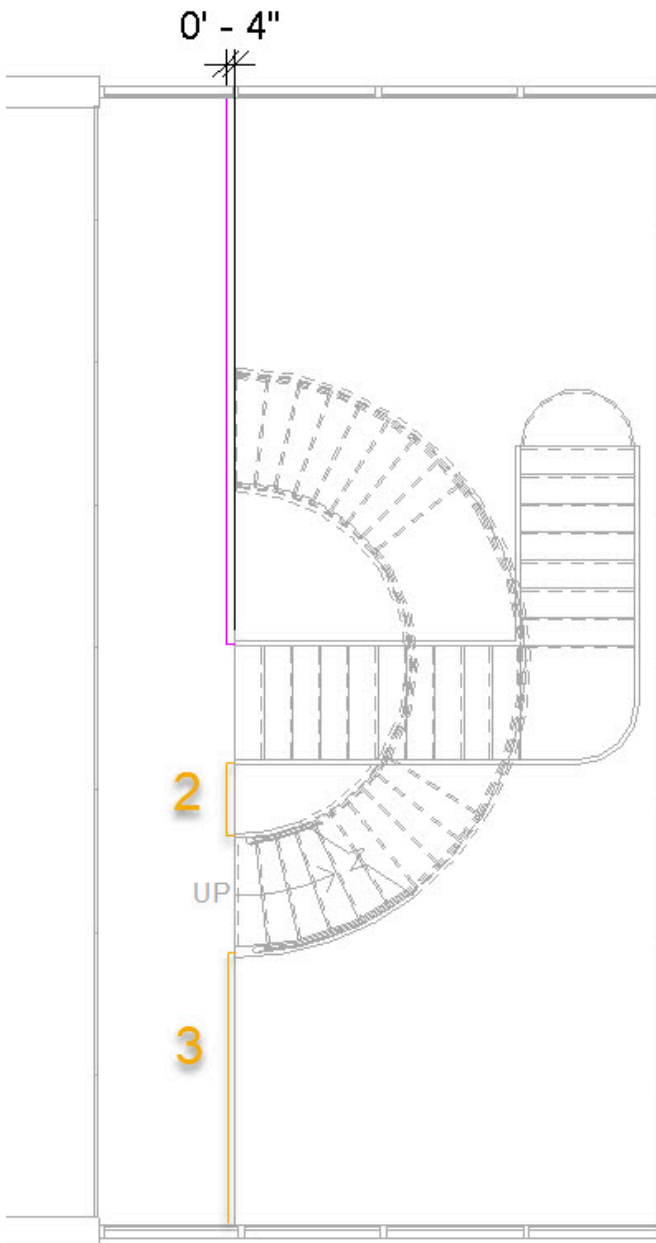

Figure 4.13 Level 2 sketched railings shown in plan view
5. Follow Figure 4.13 to draw the first railing in magenta 0'4" from the edge of the mezzanine
7. Each railing must be continuous therefore follow the same steps to complete rails 2 and 3 highlighted in yellow in Figure 4.13